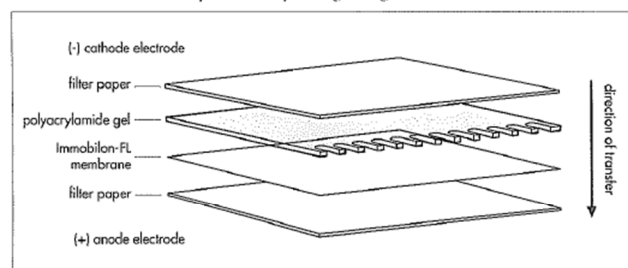

Figure 1. Transfer stack assembly for wet transfer
5. Assemble the transfer stack as shown in Figure 1.